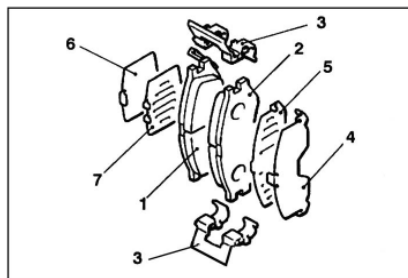

Fig. 16-18
(4) Remove the following parts from caliper support.(See Fig. 16-18)。